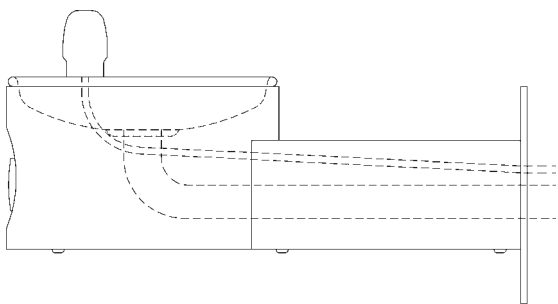

FIG.8
4. Connect water line from fountain bubbler into freeze resistant box. The connection to the box uses a quick connect water fitting. Position the water line, in the fountain, to drain back into interior mounted box. Any water left standing, in the exterior line, can freeze. See Fig. 8